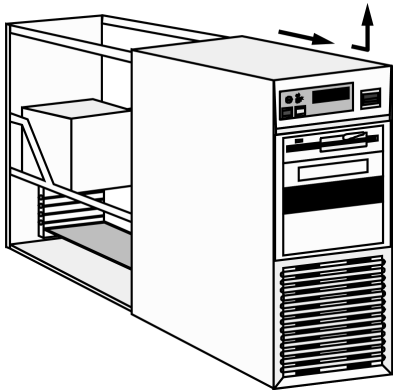

Figure 3: Removing a Typical Computer's Cover
2. If you haven't already removed your computer's cover, remove it now, following the directions provided by your computer's manufacturer. Typically, this involves loosening or removing several screws on the back panel of your computer and sliding off the cover. See Figure 3 for details.